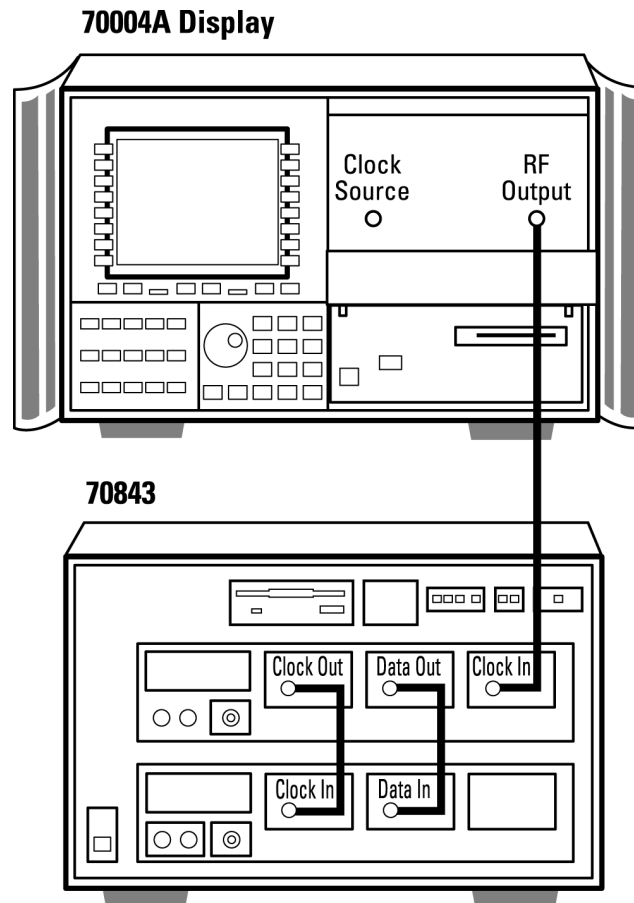

Figure 5-4 System Back-to-Back Connection
2. Connect the pattern generator DATA OUT and CLOCK OUT ports to the error detector DATA IN and CLOCK IN ports respectively. Terminate any unused ports with 50Ω terminations (HP part number 1250-2121). See Figure 5-4 on page 5-8. Ensure the HP 70843 error performance analyzer and HP 70004A display rear-panel HP-MSIB ports are connected.